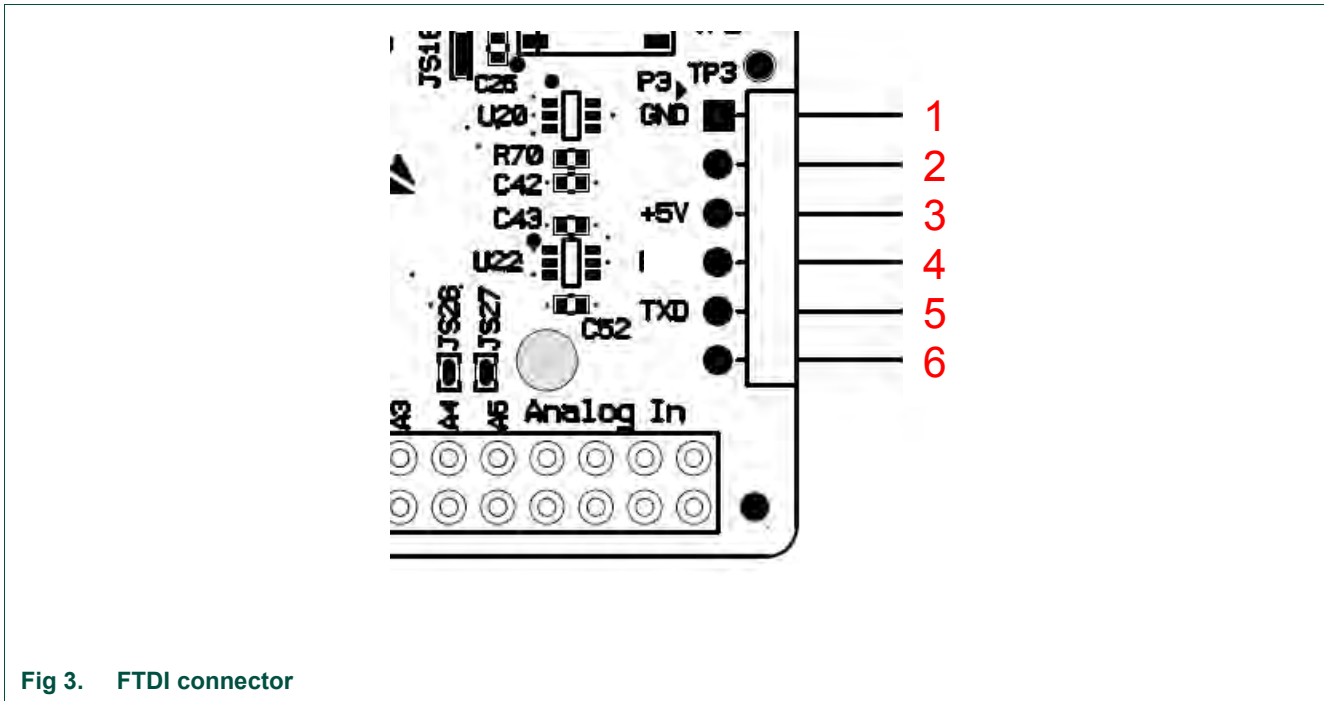

Fig 3. FTDI connector
The FTDI header P3 mates with FTDI cable TTL-232R-3V3. P3 interfaces the LPC54114 UART0 to a Host PC virtual serial port. The location of P3 is shown in Fig 3. The pin out and a description of the signals at P3 are listed in Table 2.
- Fig 3. FTDI connector 10